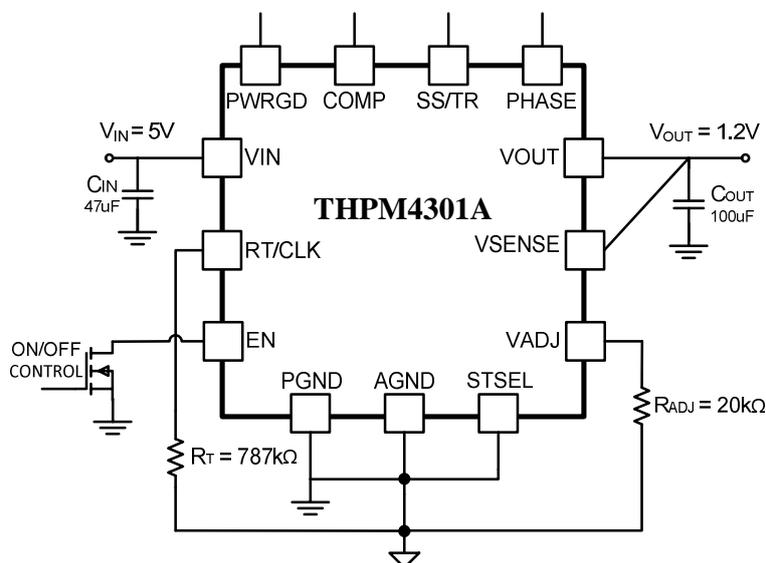

Fig. 22 Typical Schematic $V_{IN} = 2.95V$ to $6.0V$, $V_{OUT} = 1.2V$, $F_s = 500kHz$
Fig. 22 shows a typical schematic for a 1.2V output application using THPM4301A with switching frequency of 500 kHz. The adjustment resistor, R_{ADJ} , is selected as 20k Ω calculated based on Equation (1). RT/CLK is connected to ground with a 787k Ω resistor to select the recommended switching frequency. STSEL pin is connected to AGND to select the default startup time. The ON/OFF CONTROL signal is used to turn on and off the power module.